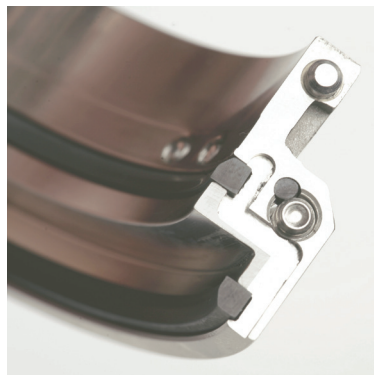

Figure 10
- 5.1 Each seal drive half has split gasket grooves machined into each joint surface. **The split joint gasket can be installed in either groove so long as the gaskets are located 180° apart when the seal drive is fully assembled.** See Figure 10.